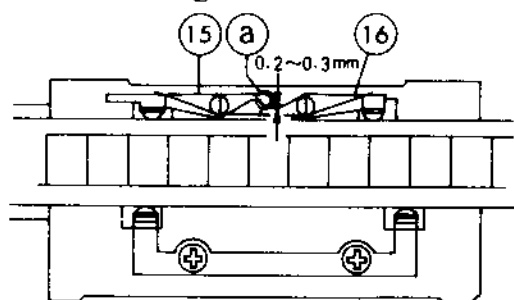

Fig. 29
4. Install 15, 16 and 17 to 14, then set the film as shown in Fig. 29, and adjust by bending "a" section with the adjusting screw driver (P028) for pressing the film sideways, so that the space between 15 and 16 is 0.2 - 0.3 mm.